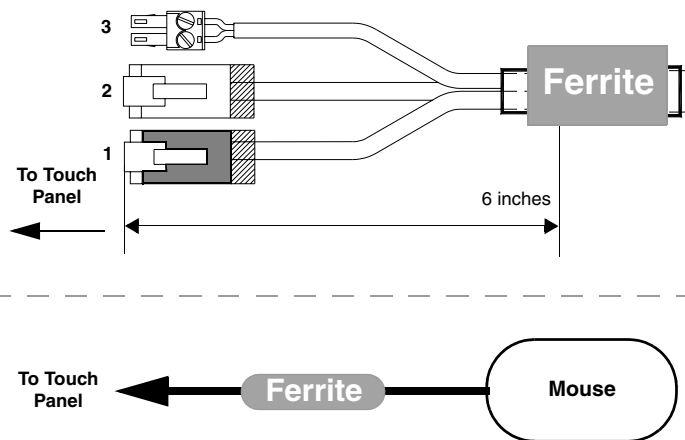

FIG. 7 CV10 Ferrite connector location on the Table Top and mouse cables
2. Grasp the end of the Modero Table Top cable being connected to the panel. This end of the cable is longer than the opposing end which connects to the breakout box (6 inches vs 3 inches). Refer to FIG. 7 for more detailed information.